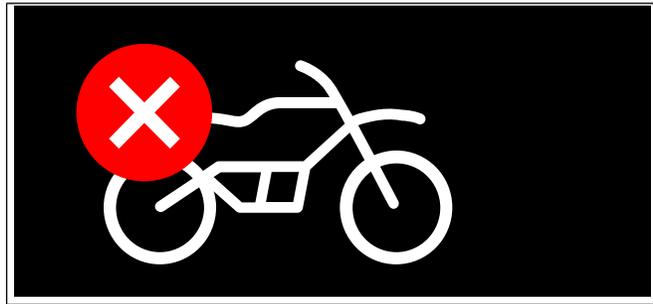

Figure 10. No Connection
- See Figure 10. If communication is NOT successful, the BCI Disconnected icon will be displayed. Check all cable connections, make sure the vehicle battery is fully charged, and make sure that the ignition is ON.